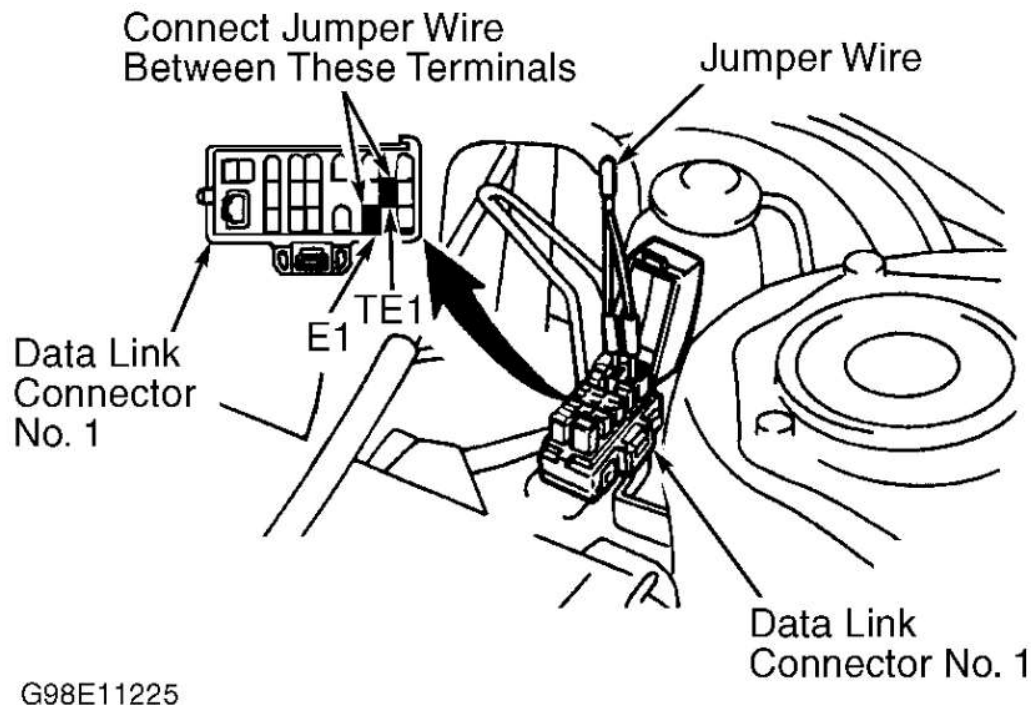

Fig. 37: Installing Jumper Wire Between Data Link Connector No. 1 Terminals (Corolla)
3. Install Jumper Wire (SST 09843-18020 or SST 09843-18040) between terminals TE1 and E1 on data link connector No. 1. See **Fig. 37** . Data link connector No. 1 is located at driver's side of engine compartment, near strut tower.